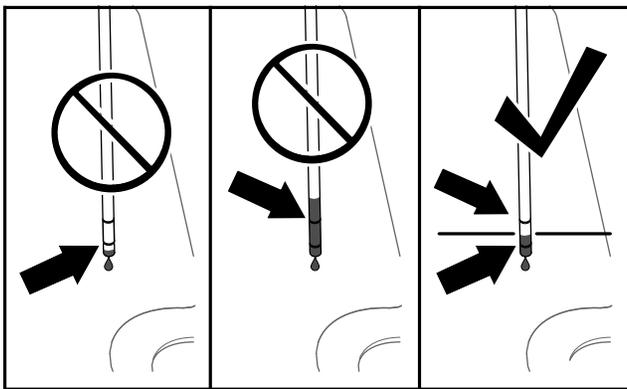

Figure 83
6. Remove the dipstick and check the fluid level (Figure 83).
fill tube (Figure 83) until you can see that the fluid level is between the 2 marks the dipstick.
8. Add the specified hydraulic fluid into the fill tube until you can see that the fluid level is between the 2 marks the dipstick (Figure 83).